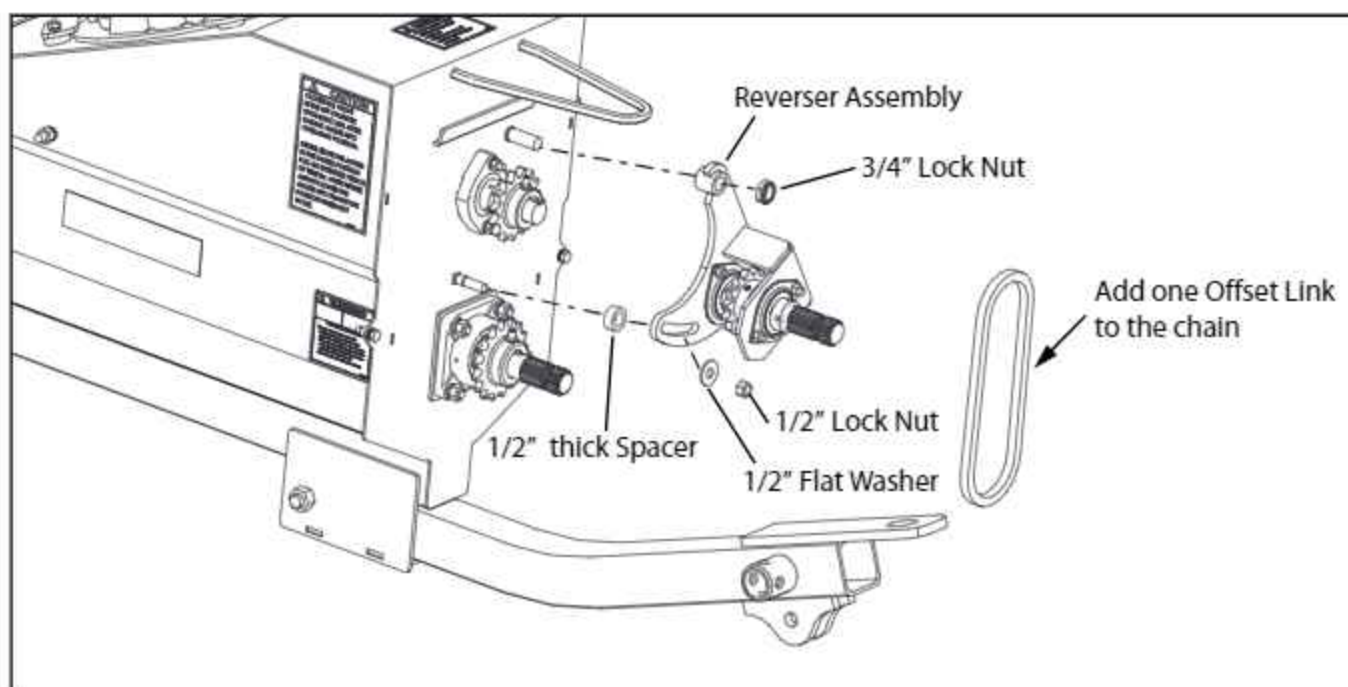

FIG. 7-1. Installing the Reverser Assembly
3. Slide a 1/2" thick spacer washer onto the lower 1/2" diameter bolt. See Fig. 7-1.
4. Slide the reverser assembly onto the two studs as shown in Fig. 7-1. Secure the top of the reverser assembly with a 3/4" locknut and the bottom slot with a 1/2" flatwasher and a 1/2" locknut. Leave the assembly loose at this time.
6. Insert the half link into the chain assembly. See Fig. 7-1.